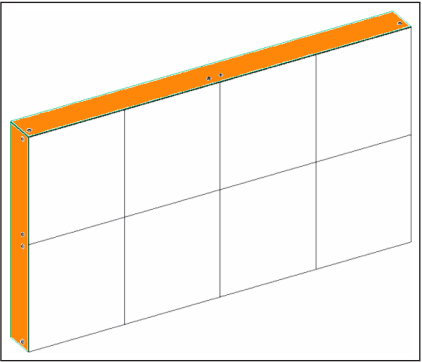

Figure 4: Attached Flat Border
5. Use a 1/4" T-25 TORX® bit (TH-1118) to remove the M5-0.8 x 10 mm machine screws (HC-3809581) to fasten the border to the panel perimeter in all pre-punched hole locations on the border. Each panel has threaded holes for borders on all four sides. Refer to **Figure 4** for the finished appearance.